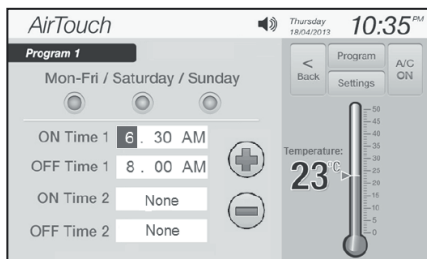

Figure 6.
- Touch the hour, minute or AM/PM field on the screen to highlight it, and then the **+** and **-** buttons will appear on the screen (Figure 6). Touch **+** or **-** buttons to adjust the time.